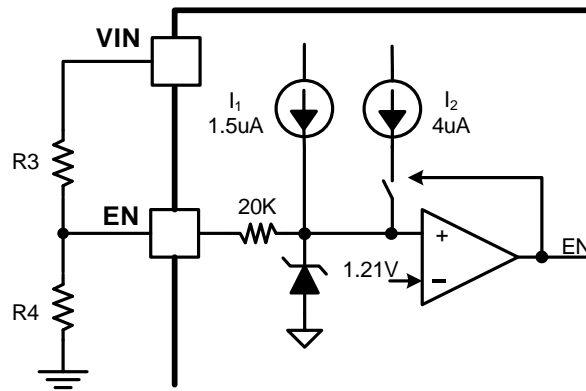

Figure 11. Adjustable VIN UVLO
An internal 1.5uA pull up current source connected from internal LDO power rail to EN pin guarantees that floating EN pin automatically enables the device. For the application requiring higher VIN UVLO voltage than the default setup, there is a 4uA hysteresis pull up current source on EN pin which configures the VIN UVLO voltage with an off-chip resistor divider R3 and R4, shown in Figure 11. The resistor divider R3 and R4 are calculated by equation (1) and (2).